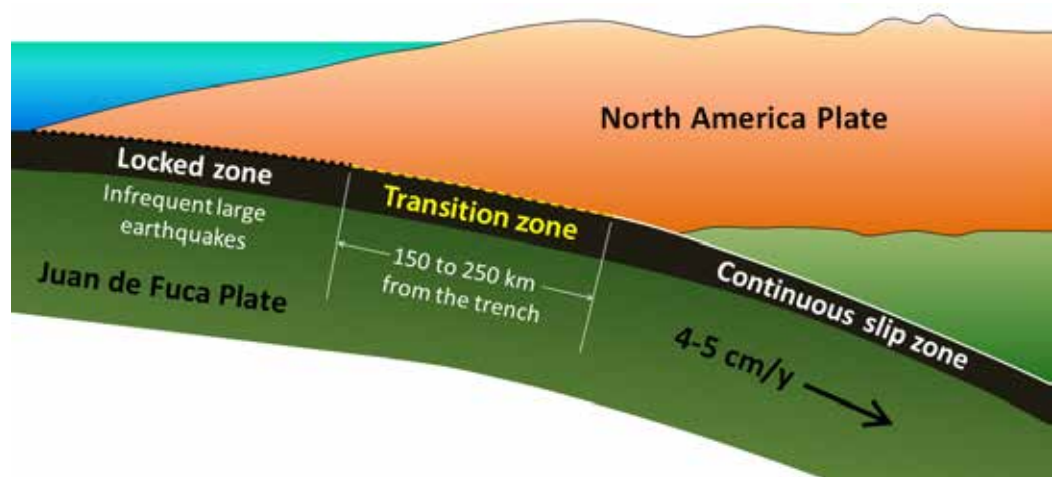

Figure 9: Cascadia Subduction Zone showing locked, transition and continuous-slip zones in the subducting Juan de Fuca Plate. See “Background” in inset above.
7. **Change friction:** What would happen if we used the two-block model, but changed the friction on the first block of wood? The two block model can also represent some of the complex interactions occurring on the subducting Juan de Fuca Plate with the Pacific Plate in the Pacific Northwest (Figure 9). Read the “Background” in inset on next page for description of the plate movements in three distinct zones: locked, transition and continuous slip.
The Cascadia Subduction Zone (CSZ) “megathrust” fault is a 1,000 km long dipping fault that stretches from Northern Vancouver Island to Cape Mendocino California. It separates the Juan de Fuca and North America plates. New Juan de Fuca plate crust is created offshore along the Juan de Fuca ridge. The Juan de Fuca plate moves toward, and eventually is shoved beneath, the continental North American plate. At depths shallower than 30 km or so, the CSZ is locked by friction. The strain slowly builds up along this fault segment as the subduction forces act, until the fault’s frictional strength is exceeded and the rocks slip past each other in a “megathrust” earthquake. The fault’s frictional properties change with depth, such that immediately below the locked part is a strip (the “Transition Zone”) that slides in “slow slip events” that slip a few cm every dozen months or so. This relieves the plate boundary stresses there, but may add to the stress on the locked part of the fault. Below the transition zone, geodetic evidence suggests that the fault slides continuously and silently at long term plate slip rate (Figure 9).